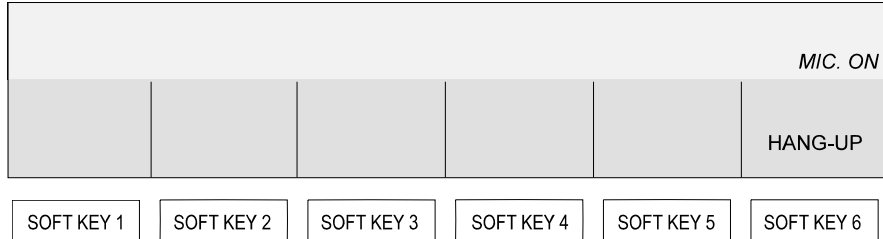

Figure 11. SUPERSET 4 Prompt Display for Speaker On/Off
To activate the speaker phone feature, an application uses the **dial()** function to press the “speaker on/off” key on a specified Dialogic® D/42D-SX channel. To verify that the feature was activated, the application uses the **d42_lcdprompt()** function to retrieve the Prompt Display shown in Figure 11 and check that bytes 41 (HANG) and 45 (UP) are on. The Prompt Display data is shown below.
An application uses the **d42_flags()** function to retrieve the Features Display data for a specified channel on a Dialogic® D/42D-SX Board and check if byte 1 is on (the microphone is on). If the microphone is on, the application uses the **dial()** function to press the “mic. on/off” key and turn the microphone off. The Features Display data shown below (obtained using the **d42_flags()** function) is read for the MIC ON feature shown in Figure 11.